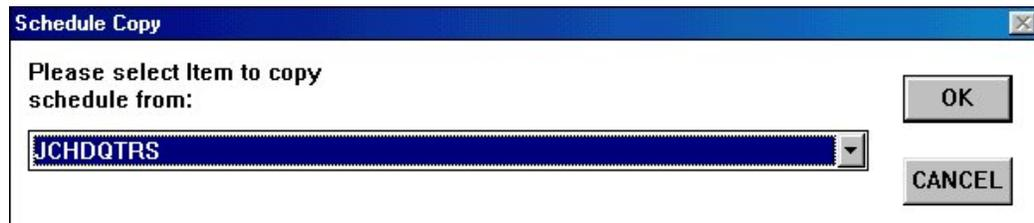

Figure 9-5: Schedule Copy Dialog Box for an Object
- Click Yes. The Schedule Copy dialog box appears (Figure 9-5).